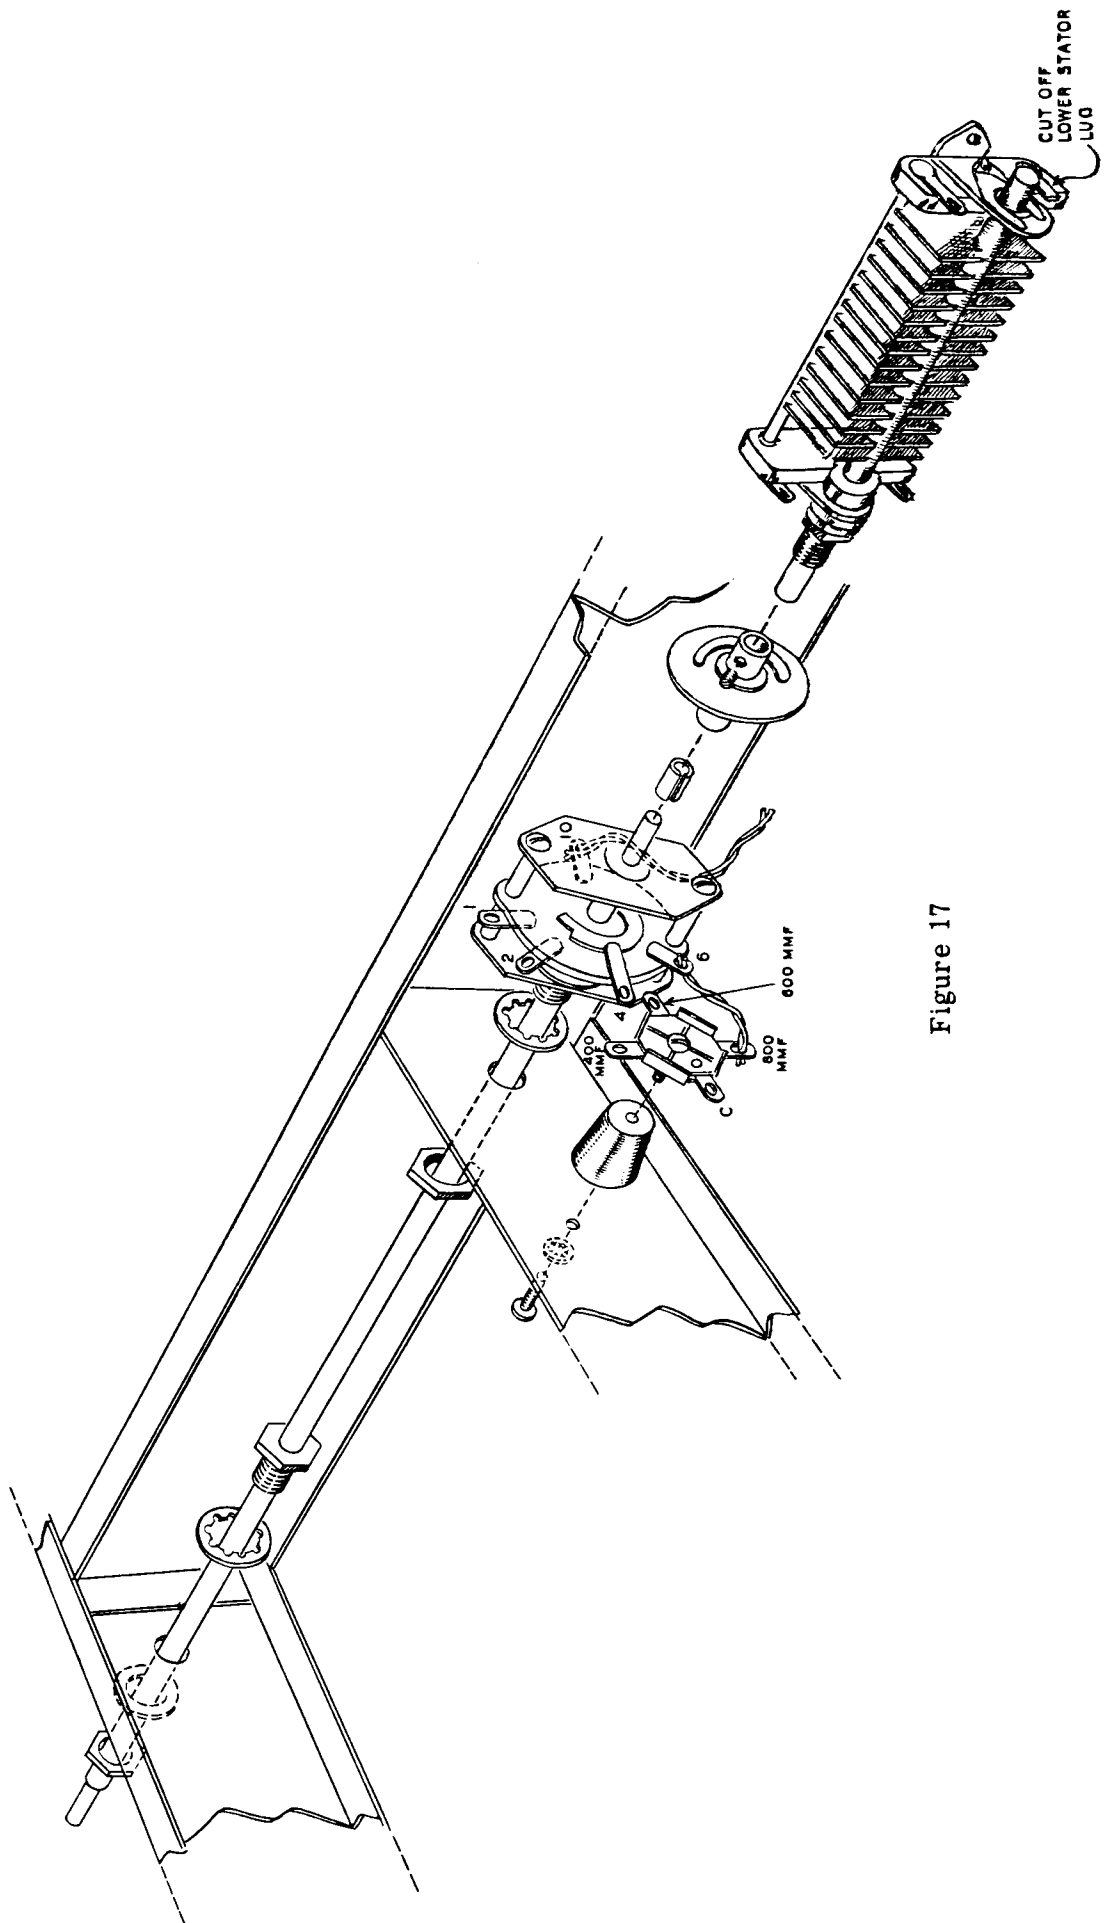

Figure 17
- () Refer to Figure 17 and identify the terminals of the loading switch. Connect a 3 1/2" length of the double conductor to terminal 10 of the switch (S). Leave the other end free and form as shown.
- () Connect a 1 3/4" length of double conductor to terminal 6 of the loading switch (S). Form as shown and leave the other end free.
- () Place a lockwasher on the loading switch shaft bushing and insert the shaft through the hole in the driver shield plate. Then place a nut, a 17/64 bushing and a lockwasher over the shaft as shown in Figure 17 and insert the shaft through the hole in the front chassis apron. Use a flat washer and nut on the front shaft bushing. Position the switch as shown and tighten the back bushing securely and the front bushing temporarily.
- () The wire coming from terminal 10 of the switch should now be connected to the ground lug at the silver ground strip (NS).
- () The wire coming from terminal 6 of this switch should now be connected to the 800 μmf section of this capacitor (S) (the terminal pointing toward the chassis top plate).
- () Place an insulated coupler over the capacitor shaft and slip a split bushing into the other coupler hub. Do not tighten either hub set screw at this time. See Figure 17